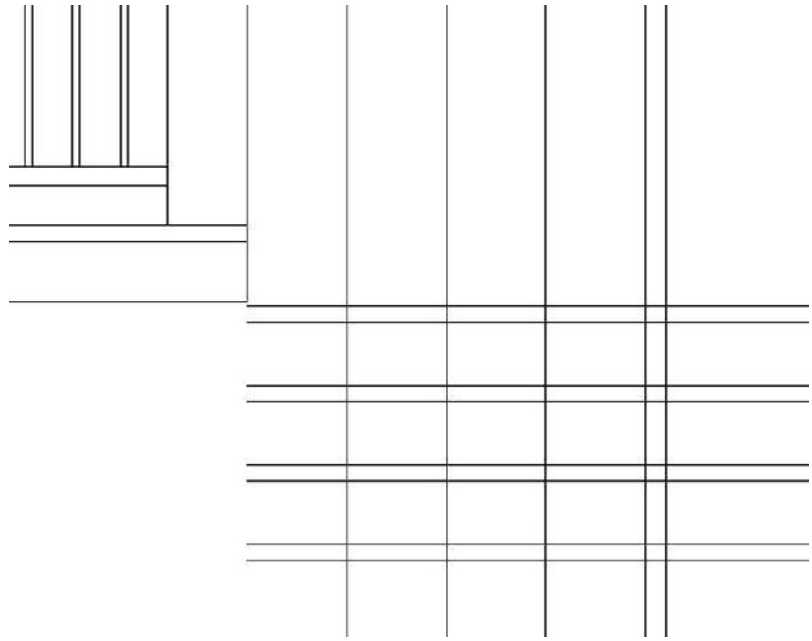

FIGURE 10.27: Offset the lines downward.
4. Offset each of the stair tread lines downward 1 5/8" (41 mm), as shown in Figure 10.27.